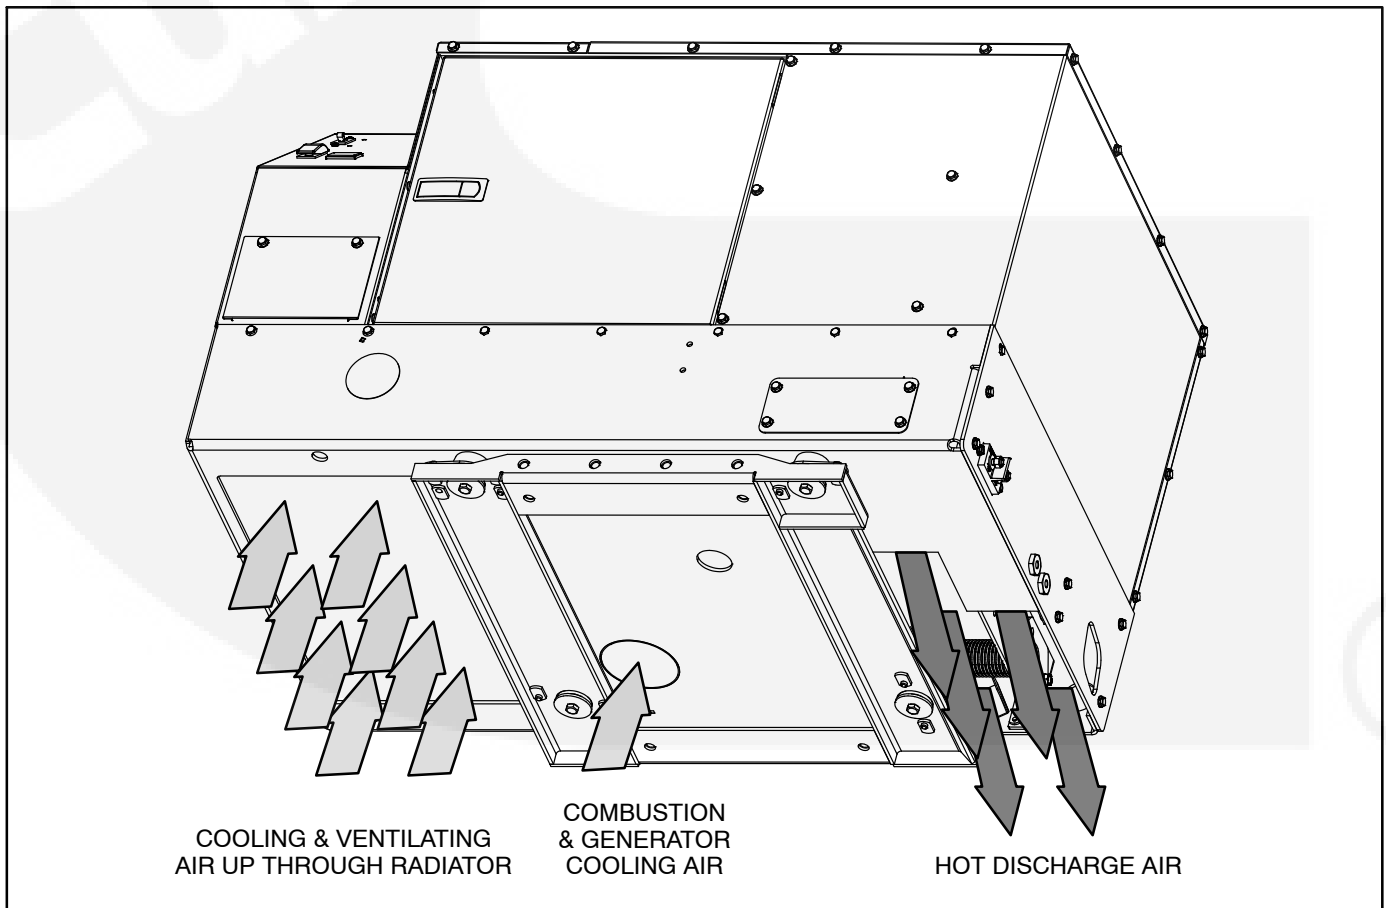

FIGURE 2-2. COOLING, VENTILATION AND COMBUSTION AIR FLOWS
A vibration isolator kit is available for models that do not have the external vibration isolators and frame illustrated in Figure 2-2. Follow the instructions in the vibration isolator kit.
mance and service life (Figure 2-2). The air intake and discharge openings are in the bottom of the genset. These are the crosshatched areas on the Outline Drawing (Page A-2). See also *Hot Air Recirculation Test* (Page 6-2).
**Note:** The hot air discharges away from the end of the genset at a slight angle to reduce recirculation (Figure 2-2). This space must also be free of frame cross members, exhaust tail pipes and other equipment that could deflect the discharged air back into the air intake openings.